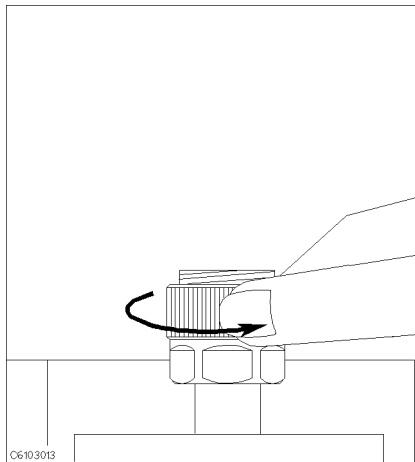

Figure 3-12.
1. Turn the APC-7[®] connector on the test head as shown in Figure 3-12.